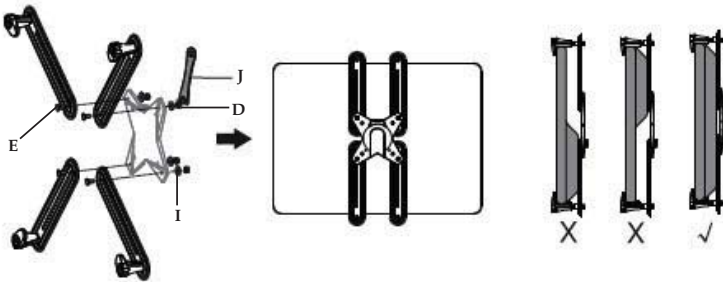

Figure 5
1. Use Bolt (E), Washer (I) with Nut (D) and tighten using Wrench (J), see Figure 5. **Note:** Do not fully tighten until instructed to do so in Step 3.